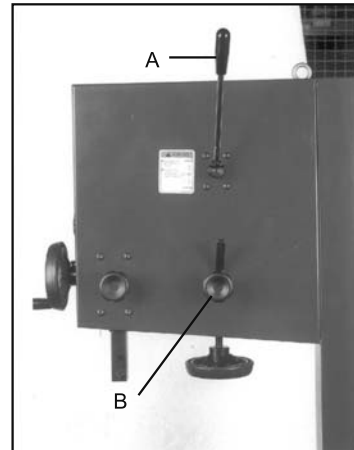

Fig. 8
5. Loosen lever rod the knob (quick change saw blade system) on rear of band saw. (A, Fig. 8)
8. Replace blade in the middle of the upper and lower wheel, if the saw blade is not in the right position, you must relax the fixed handle and adjust the positive knob. (B, Fig. 8)